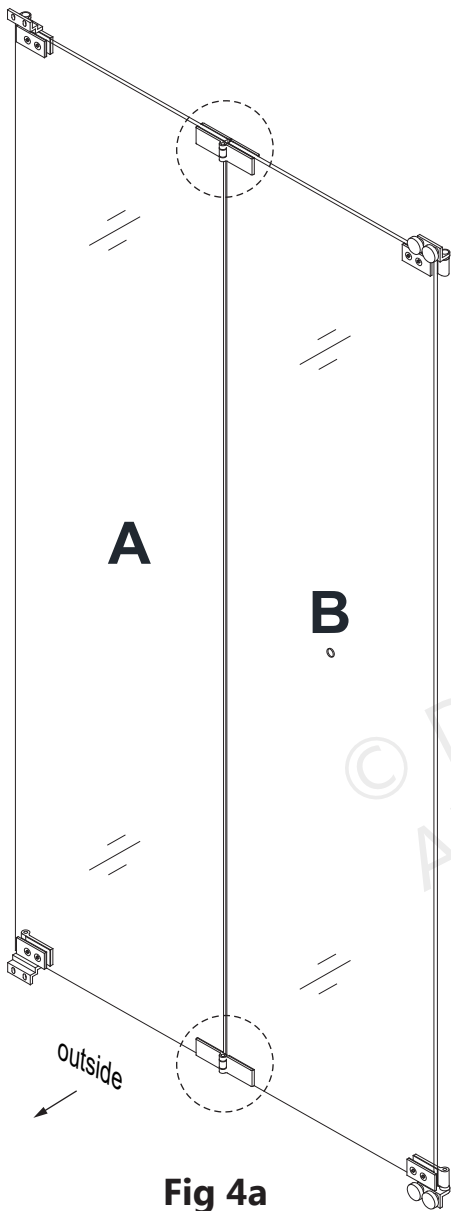
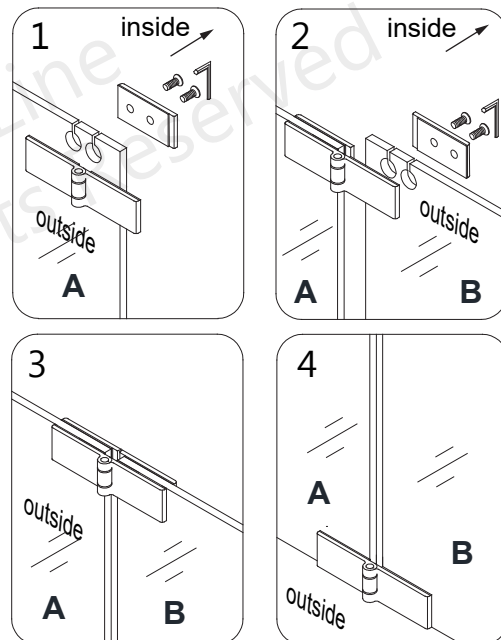

Fig 4a
Fig 4b
4. Connect Door Glass A (#04) to Door Glass B (#05) using the Center Hinge Assemblies (top & Bottom) (#11). Install the Center Hinge Assemblies (top & Bottom) (#11) onto the glass with the bolts facing into the shower. Be sure that all gaskets are in place to prevent glass-to-metal contact. (Fig 4a and Fig 4b)